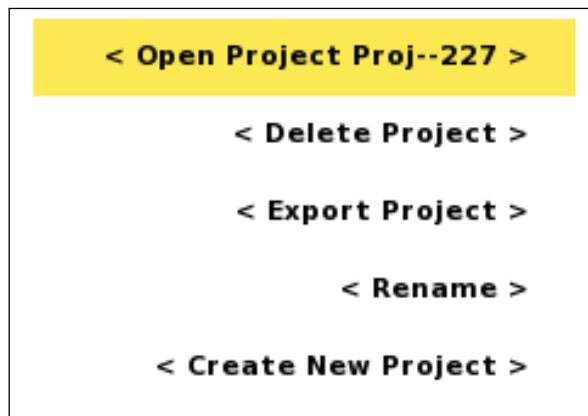

Figure 16 *Project Option menu with Open item highlighted*
- Press <Options> and the option menu (Figure 16) will be shown